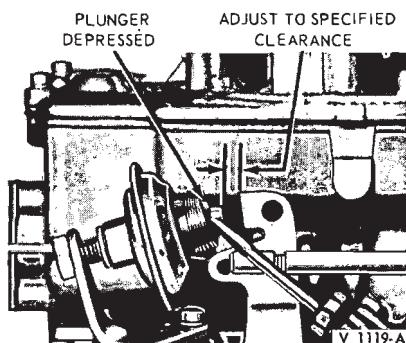

FIG. 21—Typical Anti-Stall Dashpot Adjustment
1. With the engine idle speed and mixture properly adjusted, and the engine at normal operating temperature, loosen the anti-stall dashpot lock nut (Fig. 21).